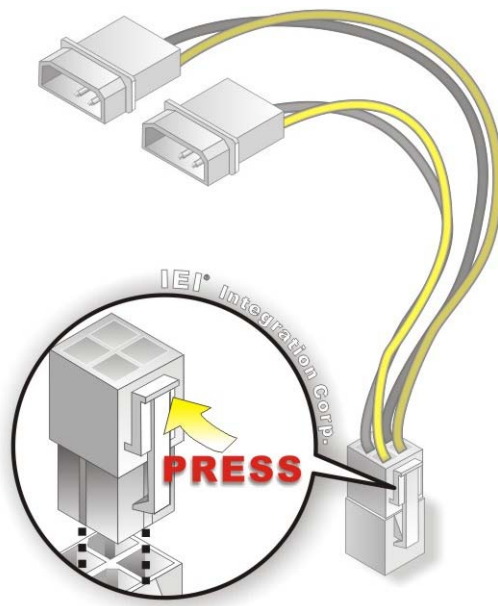

Figure 4-11: Power Cable to Motherboard Connection
Step 2: **Connect the Power Cable to the Motherboard.** Connect the 4-pin (2x2) Molex type power cable connector to the power connector on the motherboard. See Figure 4-11.